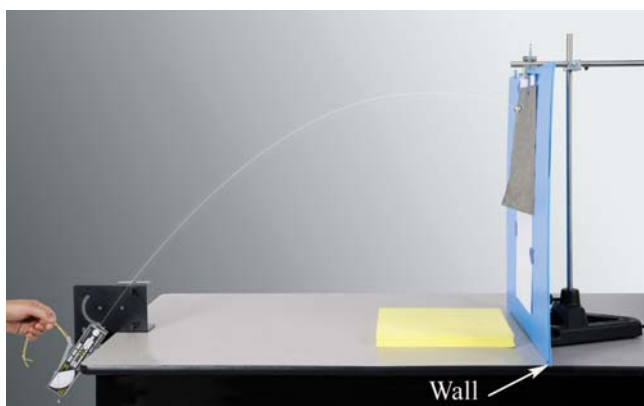

Figure 1: What angle gives maximum height on the "wall"?
5. A piece of carbon paper is taped in place (see Fig. 1) to mark the location where the ball hits the wall. The carbon paper is moved up or down as needed, but do not move the white paper or change the position of the wall after you begin taking data.
7. The yellow No-Bounce Pad (see Fig. 1) helps catch the balls!